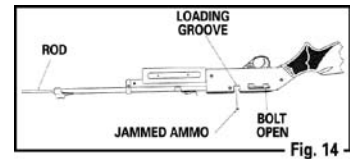

Fig. 14
- While pointing in a SAFE DIRECTION, hold the gun in the position shown in Figure 14.